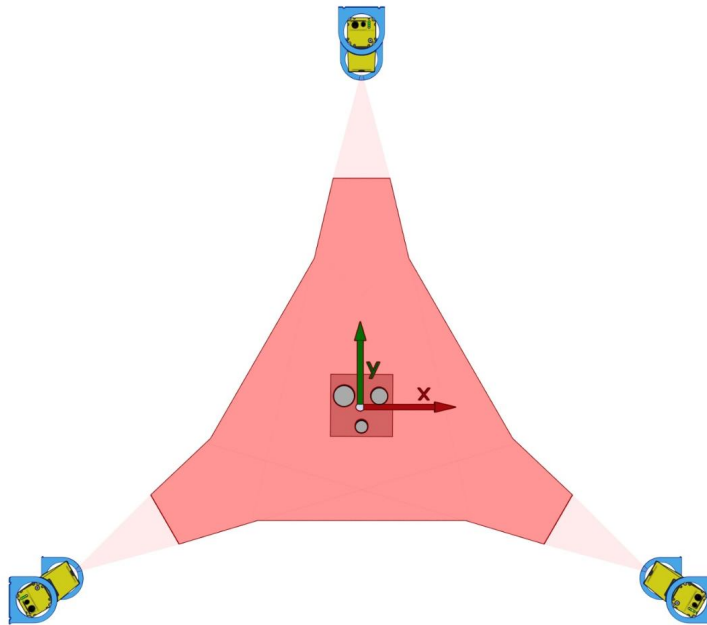
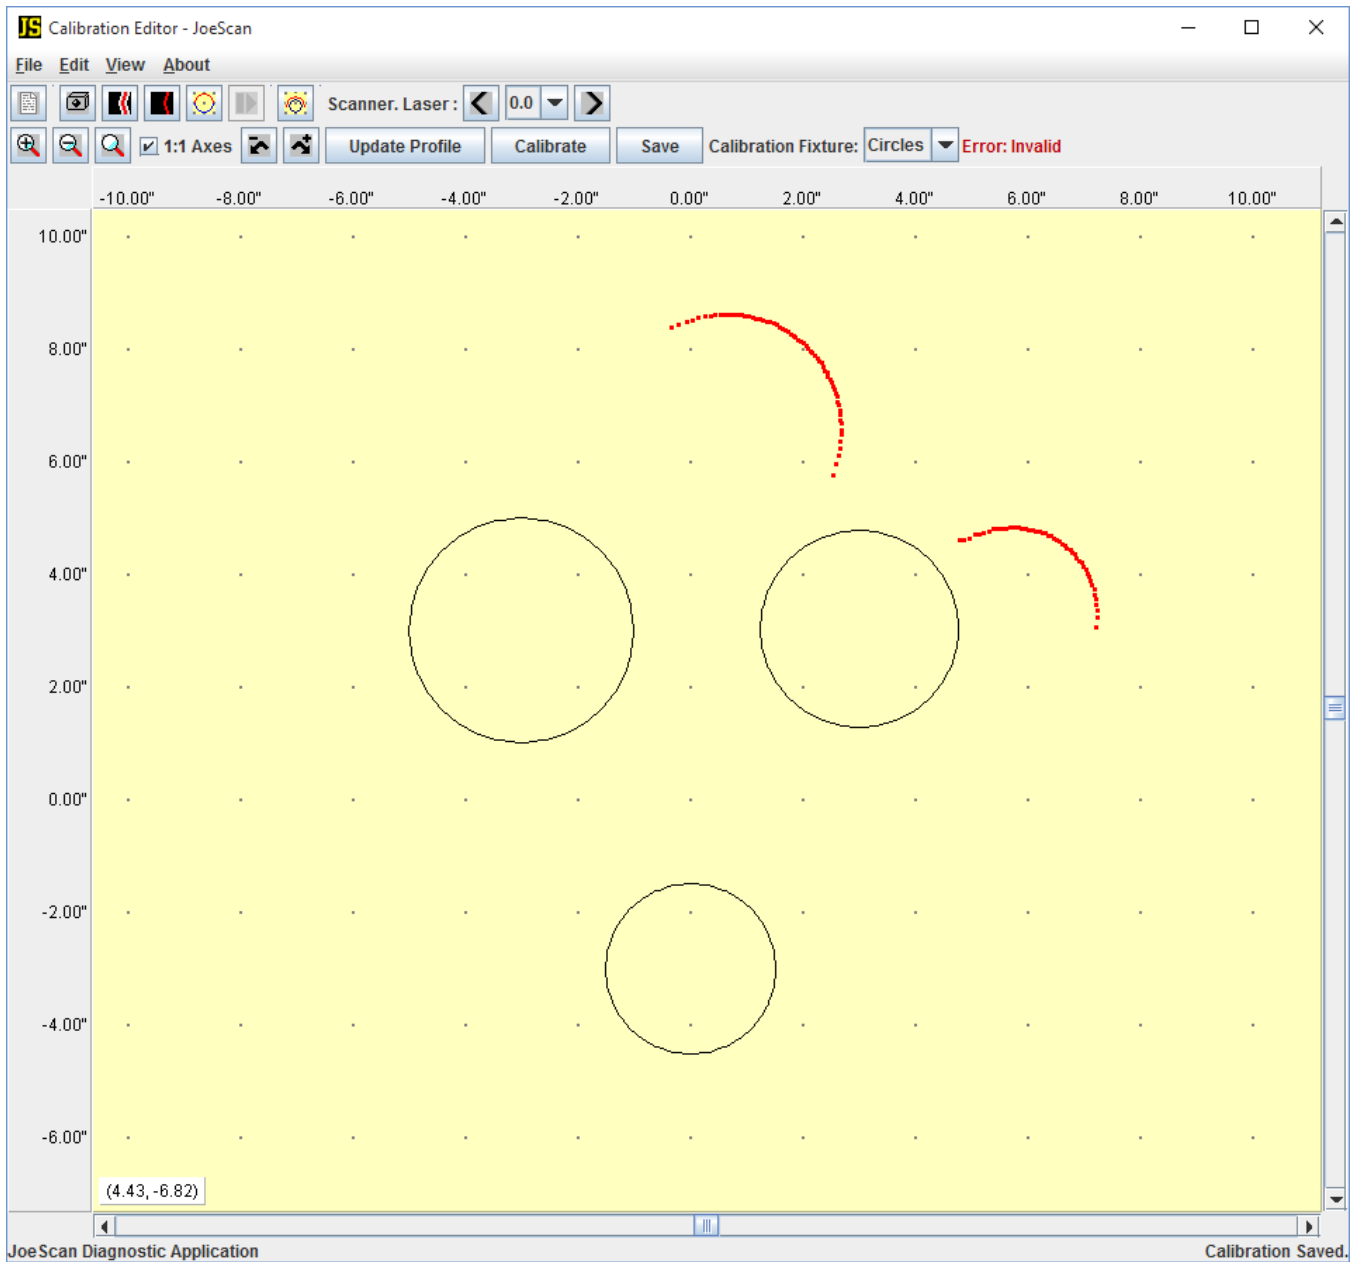

Figure 5. Calibration fixture in the laser plane of a JoeScan lineal scanning system
Figure 7. Data points visible from scanner 0.0 (scanner.laser) not aligned.
Example: To set the origin of the global coordinate system, as shown in Figure 5, in the center of the fixture, the parameter file would include the following section:
1. Rigidly position the calibration fixture in the laser plane where all scanners see two or more features, as demonstrated in Figure 5.
In Figure 7, the red data points are from the top scanner from Figure 5.